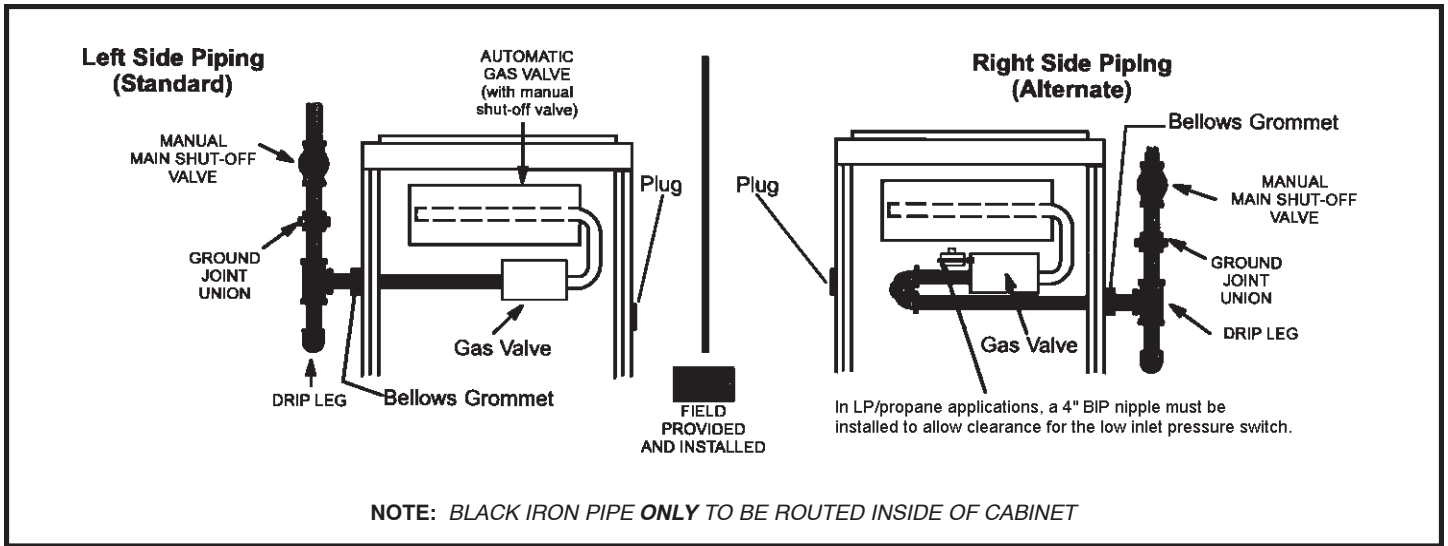

Figure 32
1. Gas piping may be routed into the unit through either the left or right hand side. Supply piping enters into the gas valve from the side of the valve as shown in Figure 32. Move Bellows grommet to side which gas line enters. Ensure opposite gas line hole is plugged with supplied plug.
The gas valve requires a low inlet pressure switch in LP/propane applications. A 4" BIP nipple must be installed in the gas valve inlet when right-side gas entry is used in LP/propane applications. See Figure 32.
3. Gas piping must not run in or through air ducts, clothes chutes, chimneys or gas vents, dumb waiters or elevator shafts. Center gas line through piping hole. Gas line should not touch side of unit. See Figures 32 and 33.